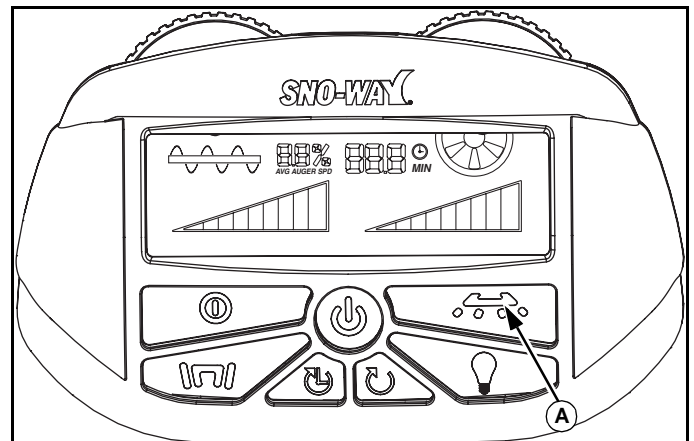

Figure 1-13
To operate the wetting system, have the control in Run Mode, press the Wetting Button (A), then the button light will change from white to green. The wetting system will not operate if the unit is in Pause Mode. If the wetting system is not in Auto Mode, the wetting system will turn off when the control is paused and remain off until the button is pressed again during Run Mode. If the wetting system is in Auto Mode and the control is running, the wetting system can be turned off by pressing the button. The button light will turn white when turned off and green again if the button is pressed. (See Figure 1-13.)